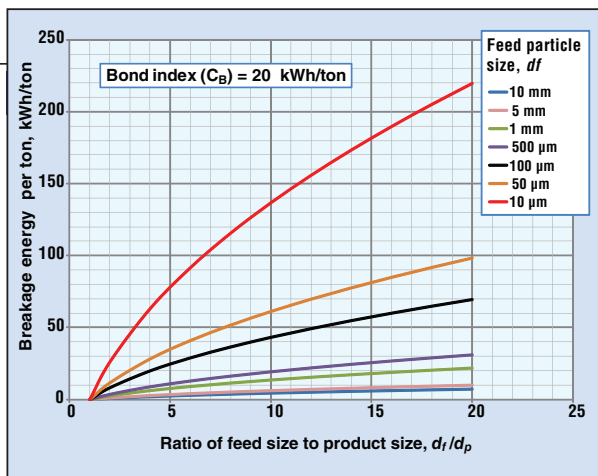
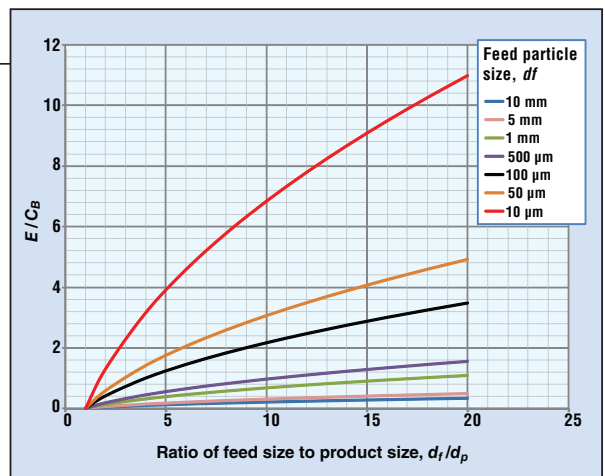

FIGURE 3. This plot illustrates a sample calculation of breakage energy for typical coal using Bond's approach
FIGURE 4. This generalized version of Figure 3 is useful to estimate breakage energy required for unknown materials
A sample calculation using typical Bond's work index for coal is plotted in Figure 3. For unknown materials, a generalized version (Figure 4) is useful for estimating breakage energy. Bond's work index values are often available in open literature or can be estimated by fitting the constant if laboratory, pilot or plant data are available. The calculation procedure is as follows:
3. Using Figure 4, estimate the E/C_B value.
5. Calculate breakage energy per unit mass (E).